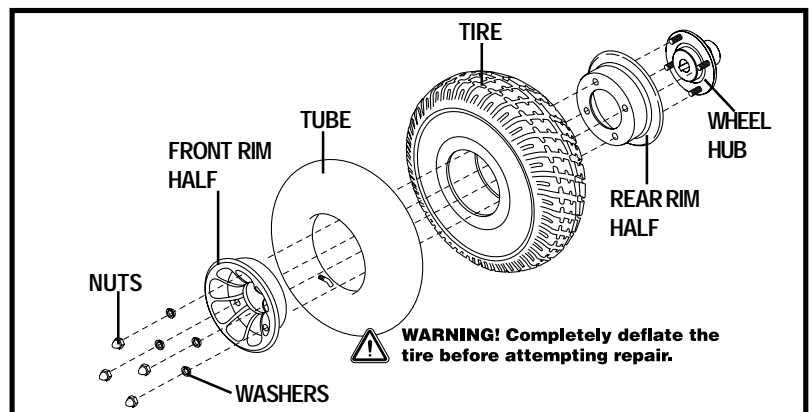

Figure 31. Drive Wheel Disassembled
6. Remove the nuts and washers from the wheel hub. See figure 31.